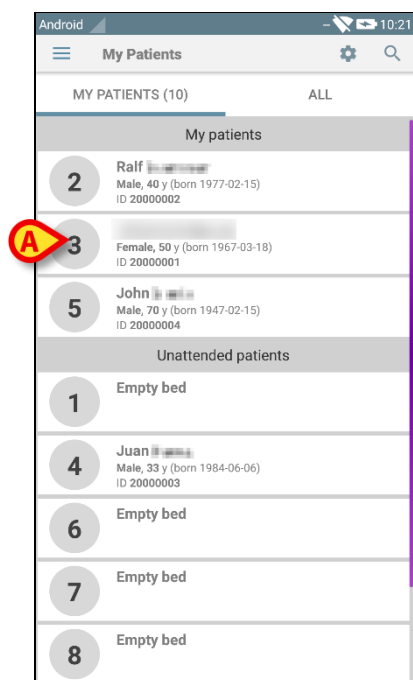

Fig 38
- Touch the tile indicated in Fig 38 **A**. User confirmation is required (Fig 39).